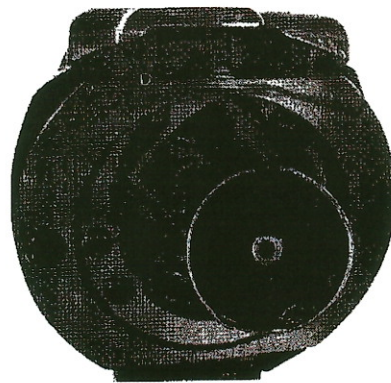

Fig.2.
- Open the shuttle cover spring follower plate c, remove the shuttle cover d and take out the large hooks system (Fig 2), class: kSP-204.